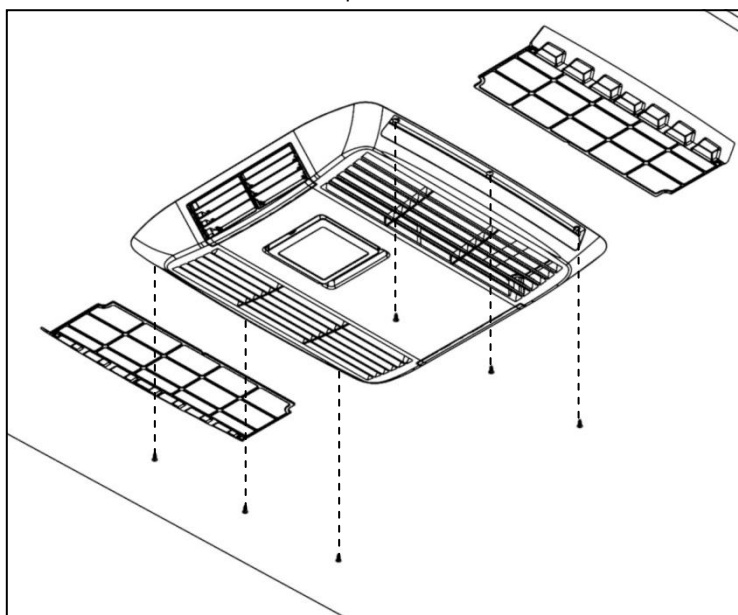

Fig 17: Remove the plenum filters and use the six self tapping screws to secure the plenum over to the ceiling of the caravan. Be sure not to over tighten.
- Remove the filter elements by pulling them out of the plenum, and use the six self tapping counter sunk screws to secure the covers edges to the caravan ceiling (Fig 17). In some instances a very small pilot hole may need to be drilled to guide the screws into place.